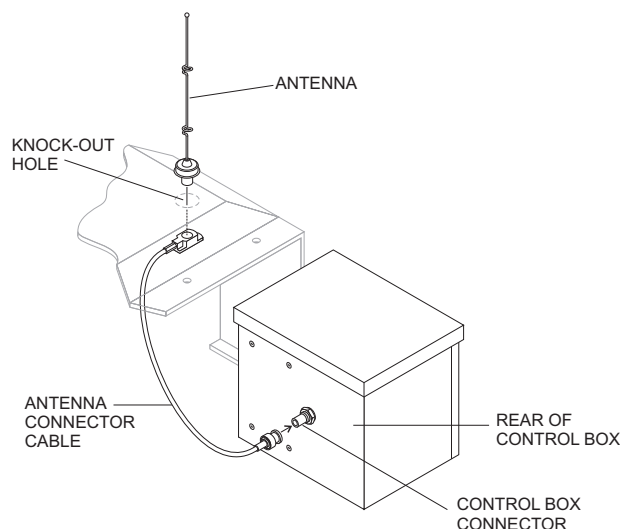

Figure 34. Antenna Installation
5. On the top of the unit, to the right of the control box (Figure 34), hammer out the knock-out hole and install the remote antenna.
6. Connect the antenna cable to the connector on the rear (Figure 34) of the control box.